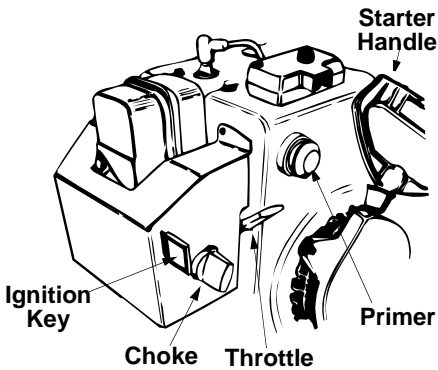

Figure 20
The throttle control is located on the engine. It regulates the speed of the engine. See Figure 20.
4. Move throttle control up to FAST position. Insert ignition key into slot. See Figure 20. Be certain it snaps into place. Do not turn key.
2. Move throttle control up to FAST position. Insert ignition key into slot. Refer to Figure 20. Be certain it snaps into place. **Do not** turn key.
- Move throttle control up to FAST position. Insert ignition key into slot. Refer to Figure 20. Be certain it snaps into place. **Do not** turn key.
- Push primer button two or three times. Refer to Figure 20. If engine is warm, push primer button once only.
- Grasp starter handle (refer to Figure 20) and pull rope out slowly, until it pulls slightly harder. Let rope rewind slowly.